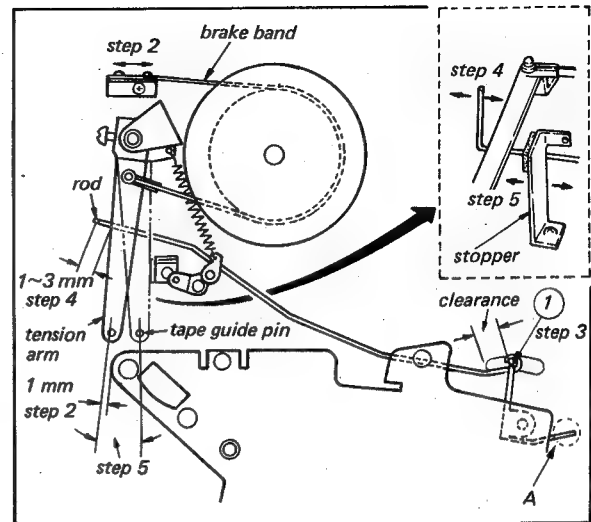

Fig. 4-9. Tension arm adjustment
2. Set the Function Lever to the FORWARD position. Check the distance between the Tape Guide Pin on the Tension Arm and the extreme left edge of the drum deck as shown in Fig. 4-9. It should be about 1 mm. Swing the Brake Band as needed to obtain the correct spacing.
3. Check for clearance between the hole in the chassis and Item 1 shown in Fig. 4-9. If the correct clearance cannot be obtained, bend Part A with a pair of pliers to obtain the gap. (Don't bend it too much).
4. Check the distance between the rod and the Tension Arm as shown in Fig. 4-9. It should be 1~3 mm. Bend Part A with a pair of pliers to obtain the gap. (Don't bend it too much).
5. Set the Function Lever to the STOP position. Check the position of the Tape Guide Pin shown in Fig. 4-9. Reposition the Tension Arm Spring Bracket to obtain the correct position.